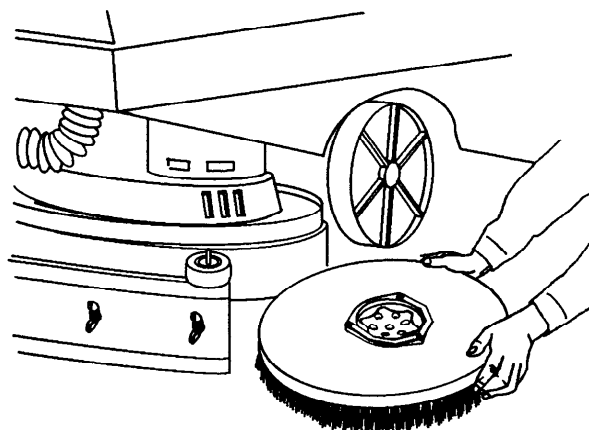

FIG. 1.
2. Slide the brush or pad driver under the scrubber head. Holding the brush or pad driver with hold hands, lift it up to the drive hub and snap into position. Figure 1.